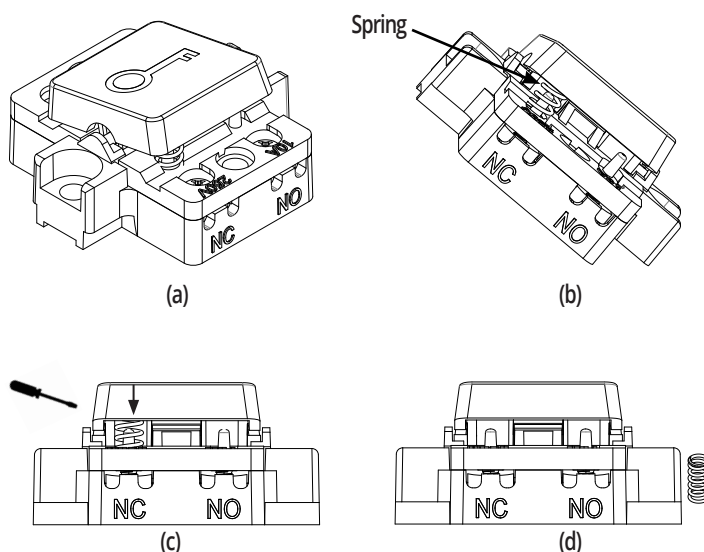

Figure 7.2: Changing from momentary to maintained
3. Looking at the switch, you will see that one side is up and the other is down. (See Figure 7.2(a))
4. Looking under the side that is up you will see a small spring. (See Figure 7.2(b))
5. Using a small flat head screwdriver push the spring down off its post on the rocker part of the switch. (See Figure 7.2(c))
6. Keep the spring in case you will need to make the switch momentary in the future. (See Figure 7.2(d)).